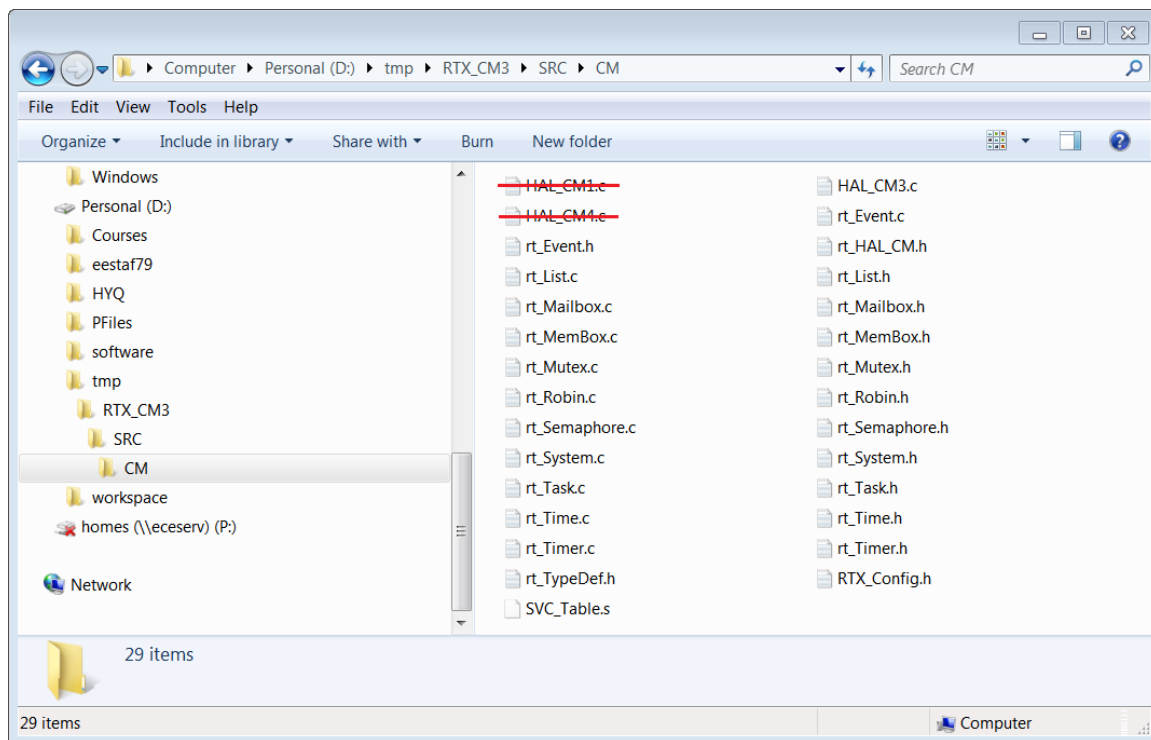

Figure 2.16: RTX Library Source Files for Cortex-M3
3. Start working on your own copy of the RTX library from now on. Remove HAL_CM1.c and HAL_CM4.c files that are under RTX_CM3\SRC\CM directory (see figure 2.16). These two files are for Cortex-M1 and Cortex-M4 processors which is not the hardware in the lab.